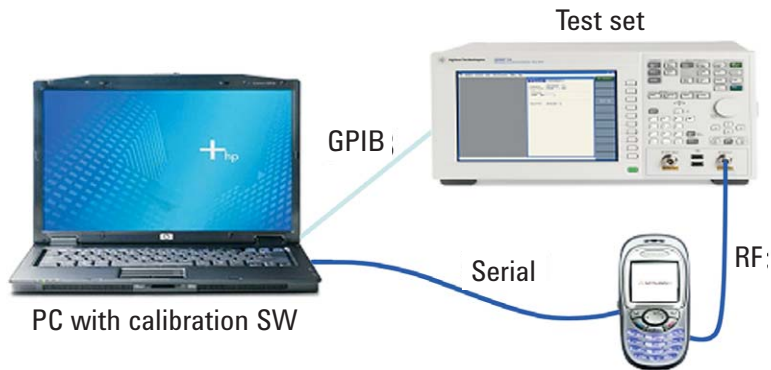

Figure 2. Diagram shows the 8960 Series 10 Wireless Communications Test Set, mobile phone, and PC controller interconnections.
To implement the Fast Device Tune measurement solution, a connection is made between the RF output of the mobile phone and the RF In/Out port of the test set. An intermediary controller (PC) running chipset calibration software is required to set up and control the Fast Device Tune measurement parameters and to control the mobile phone in transmitting its test signal waveform. Figure 2 illustrates a typical hardware configuration.